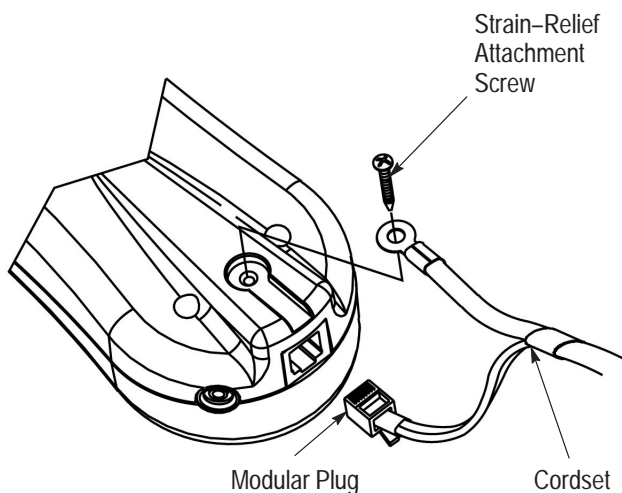

Figure 3
7.2. Line Cord Connection (Figure 3)